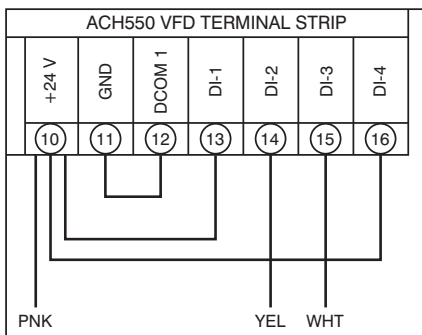

Fig. 26 — ACS550 VFD Wiring
- For ACH550 VFDs the voltage is sourced from the VFD at its terminal 10 (+24 V). 2-Speed Indoor Fan Motor speed inputs are received at terminals 14 (DI-2) for low speed (40 Hz) motor operation and 13 (DI-3) for high speed (60 Hz) motor operation. See Table 12 and Fig. 26 (on page 18).